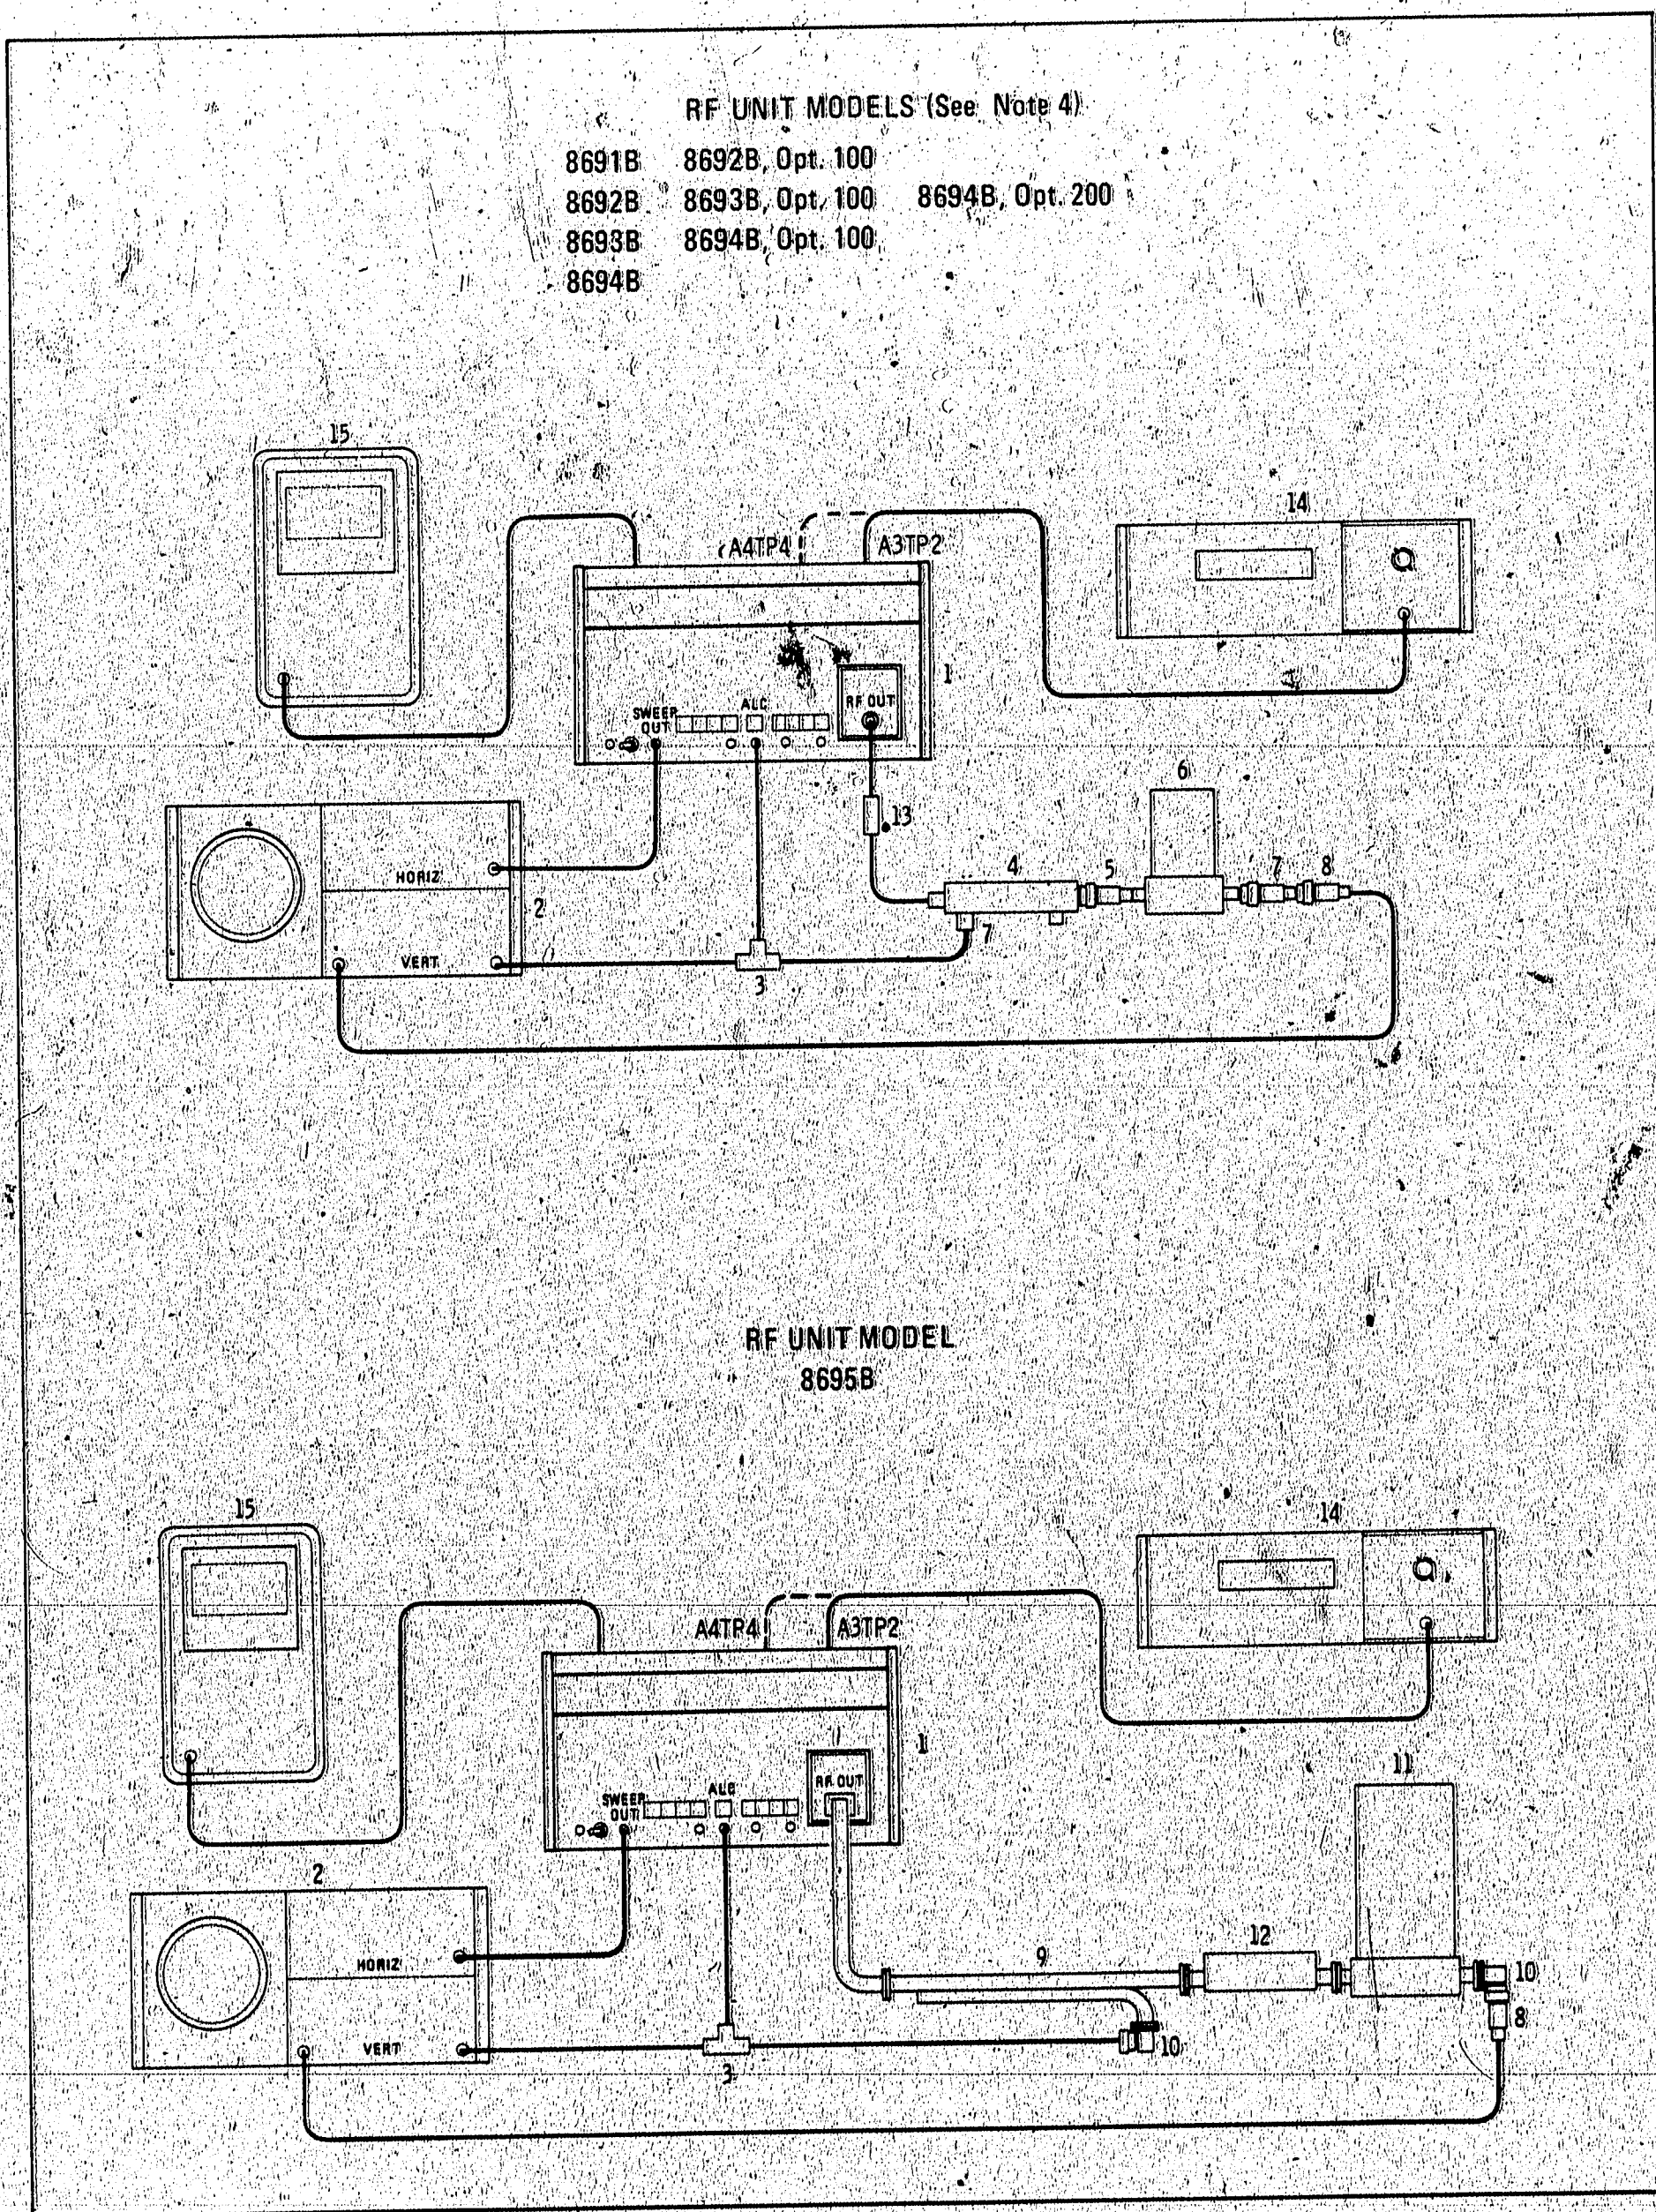

Figure 2-1. Maintenance Setup Number 1
- b. Connect equipment as shown in Figure 2-1.